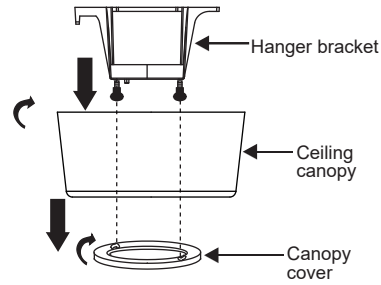

Fig. 6
Step 1. Separate the canopy pre-assembly by removing the canopy cover and loosening the bracket screws. (Fig. 6)